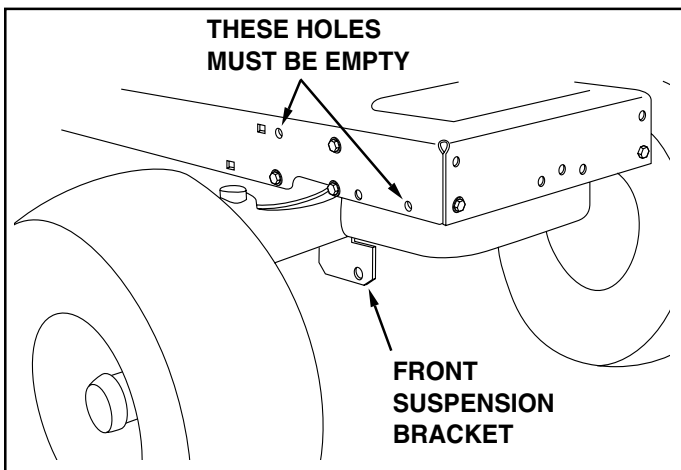

**FIGURE 3** **RIGHT SIDE VIEW**
- Assemble a shoulder bolt, a 3/8" lock washer and a 3/8" hex lock nut to the bottom hole in each side plate. See figure 3.